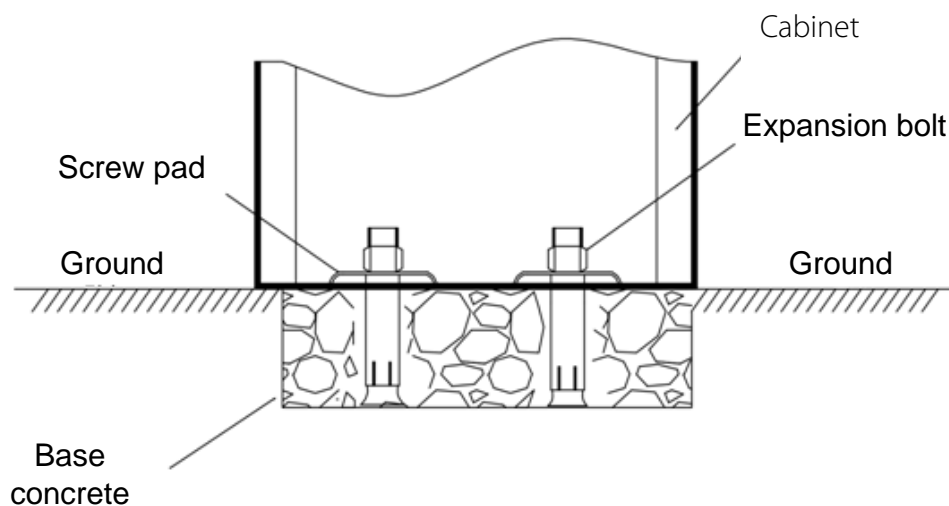

Figure 2-2
- Install screw pads and use a wrench to tighten nuts, as shown in Figure 2-2.